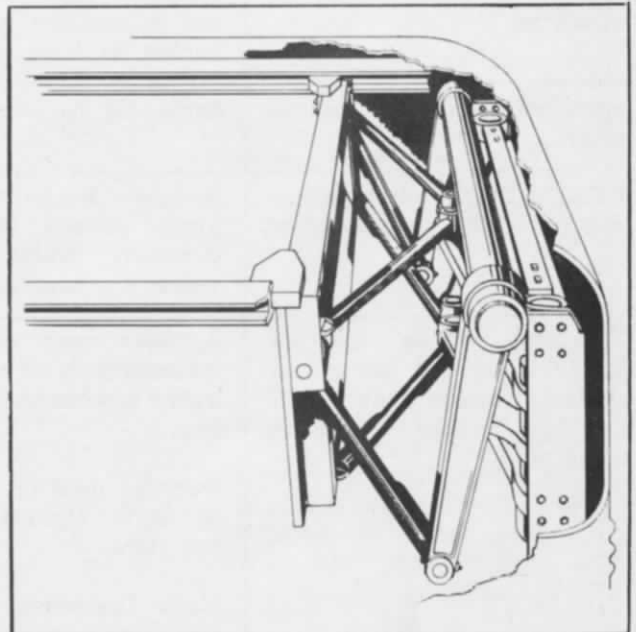

Figure S5 - COMPACTOR Maintenance Chart
7. COMPACTOR MAINTENANCE SCHEDULE, Figure S5.
CLEANING: Due to the nature of the work it performs, some material may lodge behind the COMPACTOR plate. This should be removed frequently so an accumulation does not build up in joints located at the pivot points in figure S5. If this is allowed to happen, it will cause a wedging action of extreme pressure which will eventually break the levers.